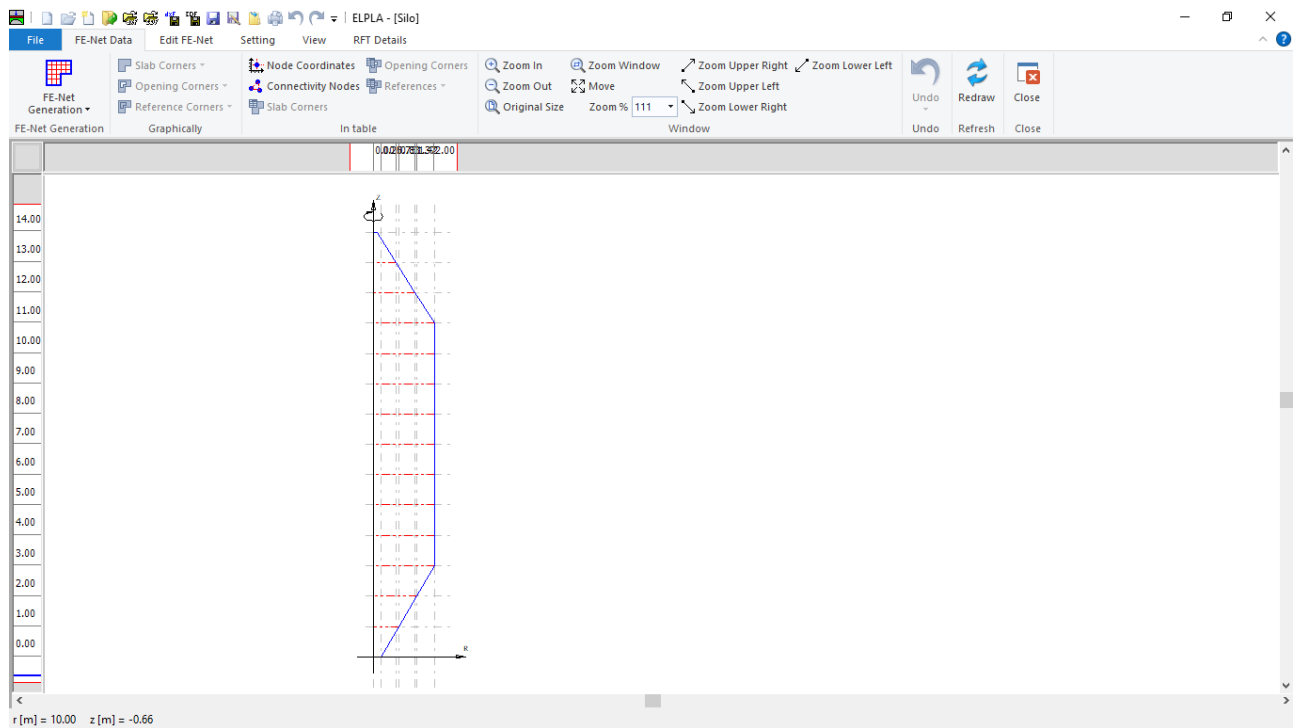

Figure 13.9 Generated FE-Net
Click "Finish" in "Analysis of rotational shell" wizard, the generated FE-Net appears Figure 13.9.
- Choose "Save" command from "File" menu in Figure 13.9 to save the data of the FE-Net
- Choose "Close" command from "File" menu in Figure 13.9 to close the "FE-Net" window and return to *ELPLA* main window